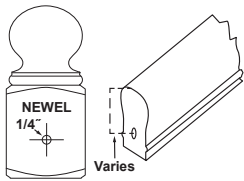

Fig. 2
6. Measure distance from top of the rail to center of 3/8" hole in pitch cut. (Fig.2)
7. Mark newel in center and at proper height to achieve rail height. (Fig. 2)
8. Drill 1/4" pilot hole 2-1/8" deep. (Fig.2.)